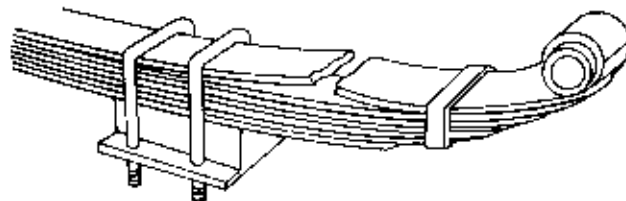

Figure 2.3
- Missing or broken leaves in any leaf spring. If one fourth or more are missing, it will put the vehicle "out of service" but any defect could be dangerous (Figure 2-3),